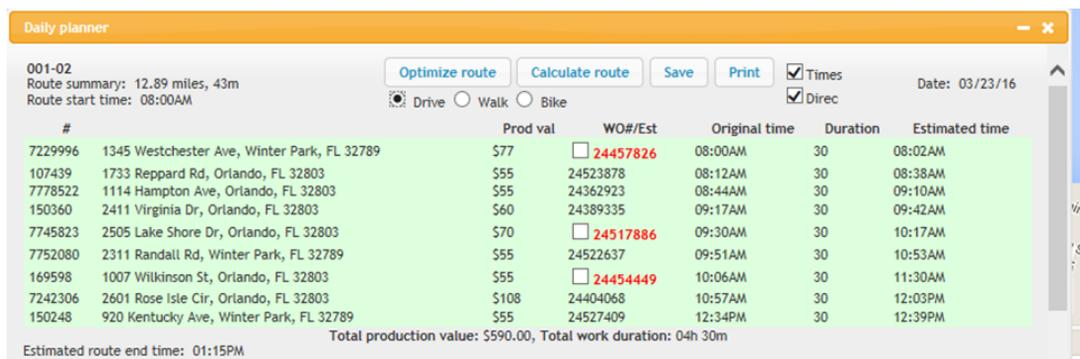

Figure 21
1. Confirmed stops will show in red bold numbers on the daily planner route optimizer with a box before the account number (Fig. 21).